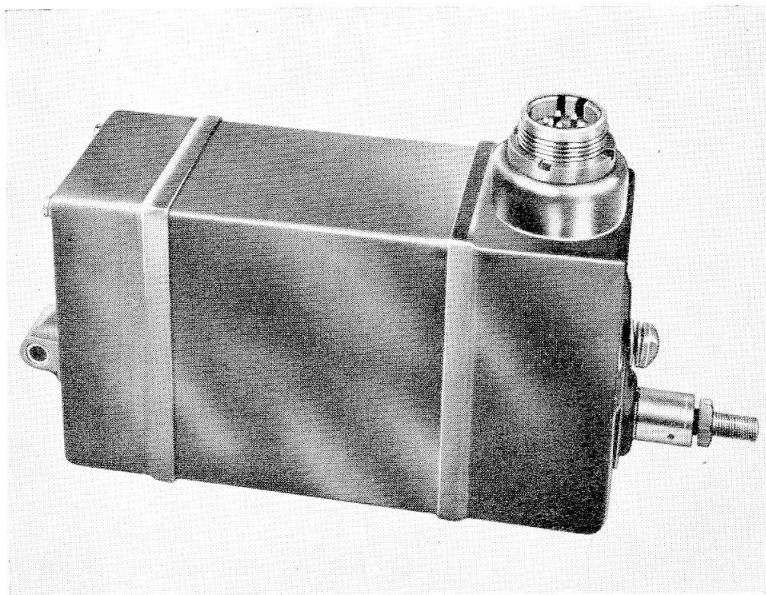

Fig. 1 General view of Jaguar actuator
4. A general view of a typical Jaguar actuator is shown in fig. 1, and a unit in this worm drive range is shown sectioned in fig. 2.